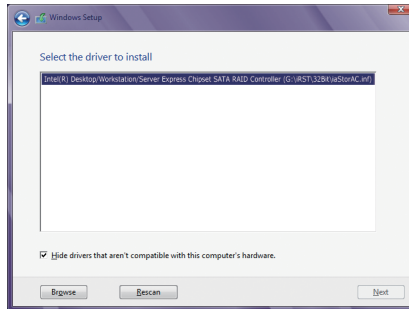

Figure 1
When a screen as shown in Figure 1 appears, select **Intel(R) Desktop/Workstation/Server Express Chipset SATA RAID Controller (G:\IRST\32Bit\us20rAC.inf)** and click **Next** to load the driver and continue the OS installation